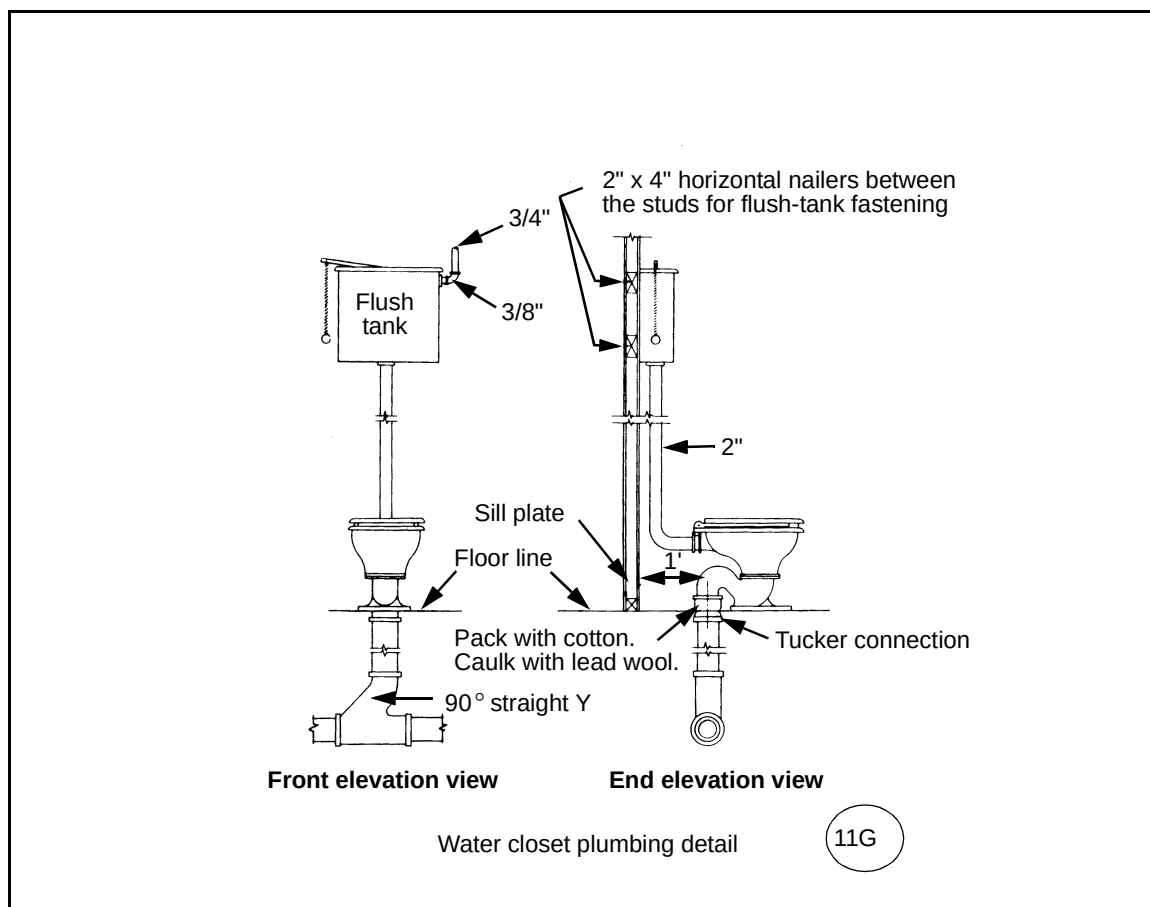

Figure B-3. Standard Detail Drawings (Bathhouse and Latrine)
- A standard detail drawing of a water closet installation (*Figure B-3, page B-4*).